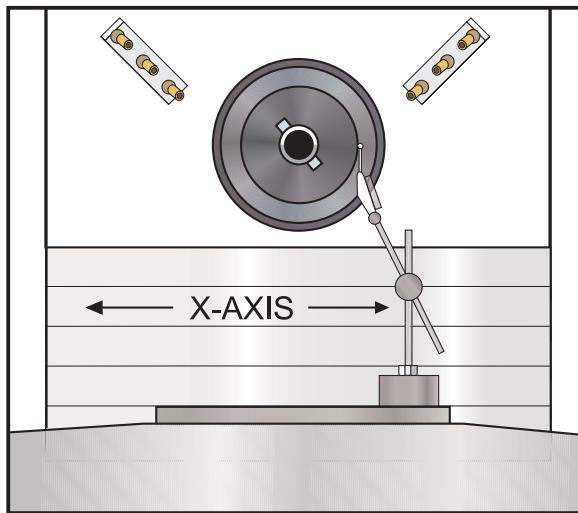

Figure 1.3-1. Dial indicator in position to check X-axis.
1. Set up a dial indicator and base on the mill table as shown in Fig. 1.3-1.
An alternate method for checking backlash is to place the dial indicator as shown in Fig. 1.3-1 and manually push the mill column to the left and right while listening for a 'clunk'. The dial indicator should return to zero after releasing the column.